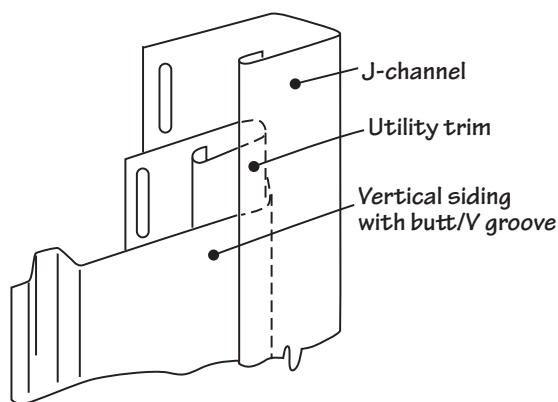

Figure 57.
- Install successive panels by securing from the topmost full nail slot downward, as described above, then 12" (305mm) on center for the rest of the panel. Around windows, doors, and fixtures, allow 1/4" (6.4mm) clearance in receiving channels (increase to 3/8" [9.5mm] if installing below 40° F [4.4° C]). When the panels are cut in the "V" groove or on the flat surface of the panel to accommodate an opening, install utility trim to properly secure panels, as described above (Fig. 57). Check the plumb of the installation every few panels to maintain the best appearance.